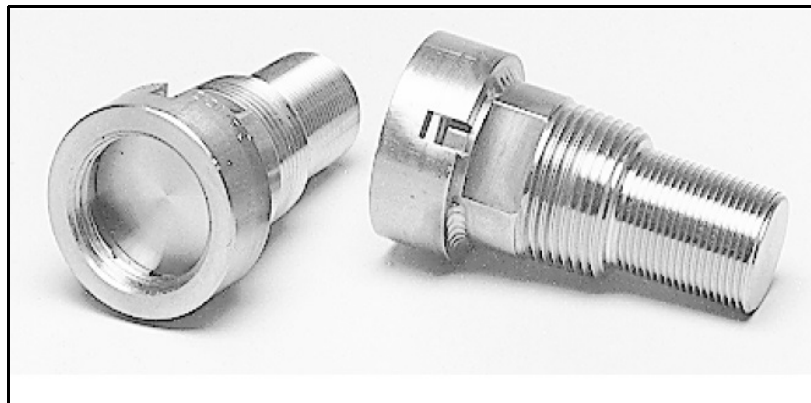

Figure 18: Extended-Well Threaded PanAdapta Plugs
*Stainless steel* and other metal PanAdapta plugs are screwed, socket-welded, or flanged into the pipe coupling, nozzle or tee. *Plastic* PanAdapta plugs are mounted into a pipe coupling either by threading or fuse bonding. Plastic PanAdapta plugs are used when wetted parts cannot be metal. They have a thinner face than the stainless steel plugs and require the use of extended-well wetted transducers. Figure 18 below shows extended-well, threaded, stainless steel PanAdapta plugs.